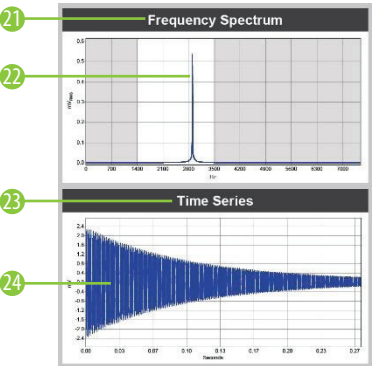
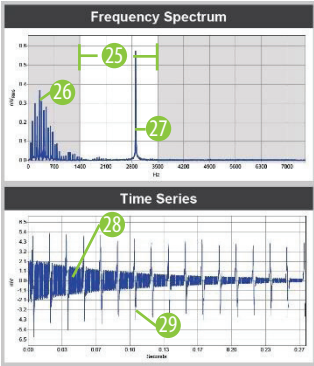

Figure 1: Vibrating Wire Signal
Figure 2: Vibrating Wire Signal With Noise
The following two sets of graphs illustrate the use of VSPECT™ to identify a sensor signal in a quiet and noisy environment. Both graphs were created from GK-406 reports using the same sensor. Fig. 1 was measured in an electrically quiet environment, while Fig. 2 was measured in an electrically noisy environment (AC power) similar to what can be seen in a field environment (power lines, motors, radio signals, etc.). The time series on Fig. 1 shows a relatively clean signal ②4 that is clearly identified ②2 on the frequency spectrum ②1. The time series ②8 on Fig. 2 shows the influence of the noise. ②9 Vibrating wire readers that only use the time series ②8 to determine the frequency may report an incorrect frequency as a result of noise. The frequency spectrum (VSPECT™) filters the noise ②6 and easily identifies the sensor signal ②7. VSPECT™ provides noise immunity by correctly identifying the sensor signal and ignoring the influence of electrical noise that commonly affects time-domain-based vibrating wire readers.